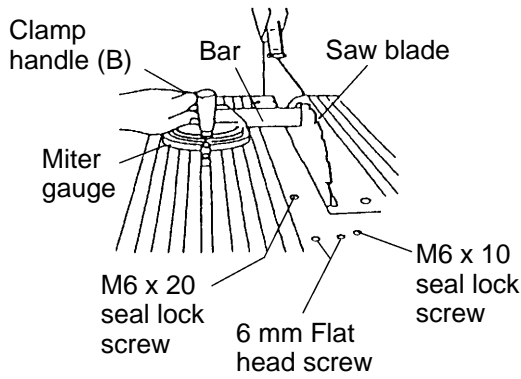

Fig. 13-c
- (9) Without disturbing the bar clamped to the miter gauge, move the miter gauge to the center of the saw blade.
- (10) Rotate the marked tooth to the rear and slide the miter gauge rearward until the clamped bar is closest to the tip of the marked saw blade tooth (see Fig. 13-c).
- (11) If the bar just touched the tooth when the gauge was in the front position, it should just touch the tooth in the rear position.